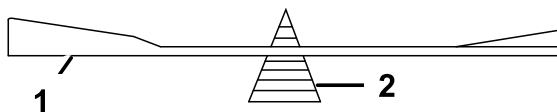

**Figure 46**
1. Use a file to sharpen the cutting edge at both ends of the blade (Figure 46).
**Note:** If the blade is not balanced, file some metal off the end of the sail area only (Figure 46).